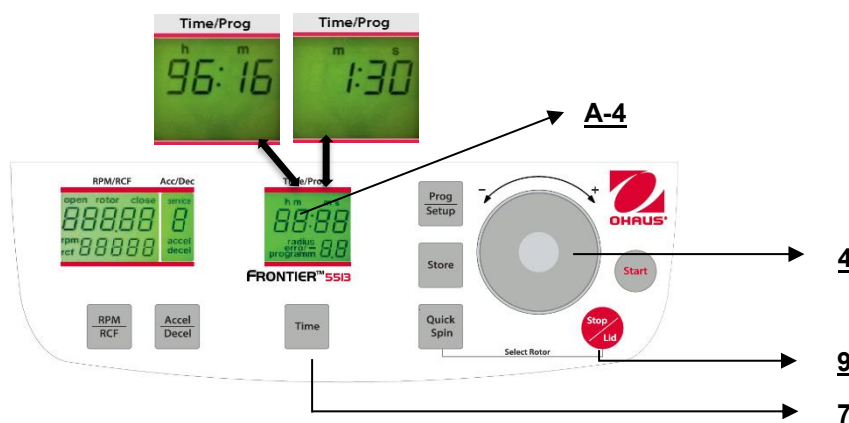

Figure. 17
3. The continuous run **"cont"**, which can be interrupted by the key **"Stop/Lid"**(9) (refer to figure 17).
The display always shows the remaining running time. (See figure 17)